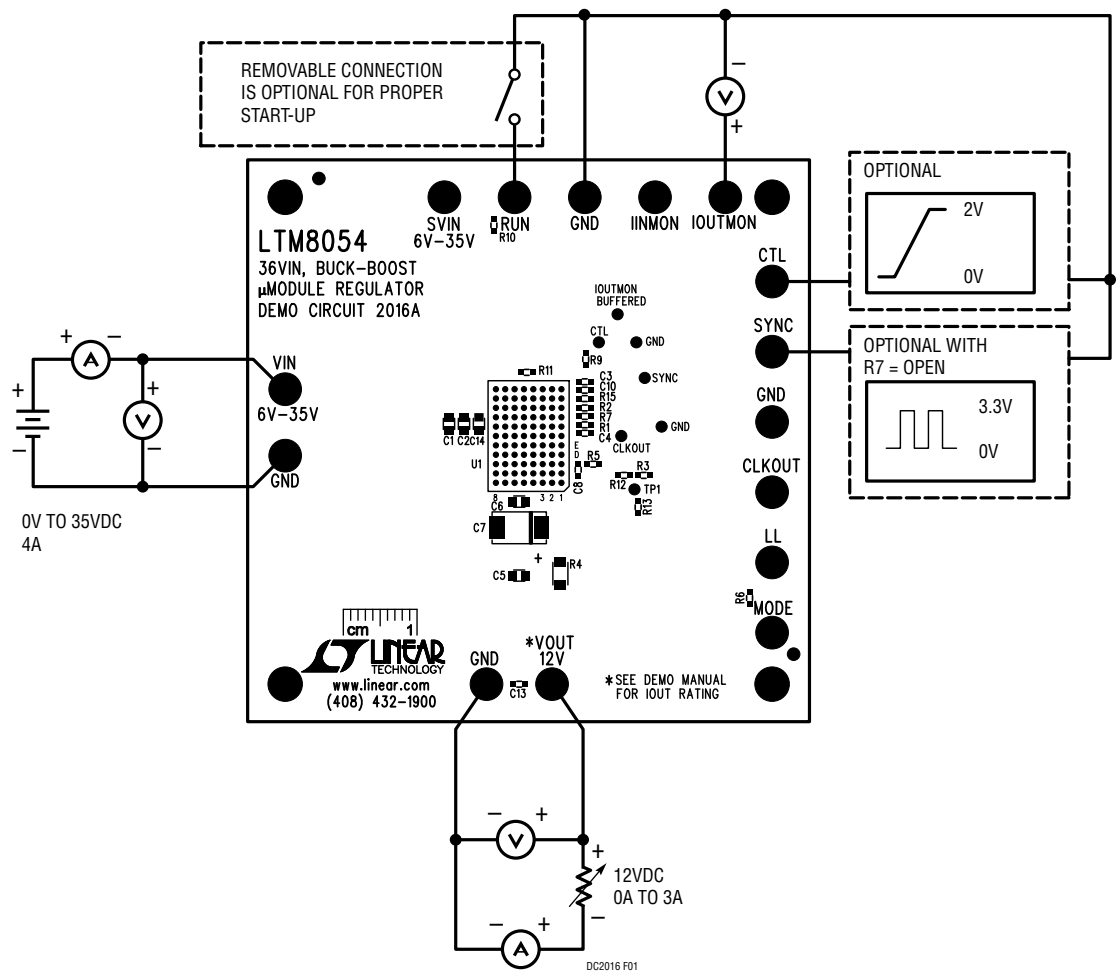
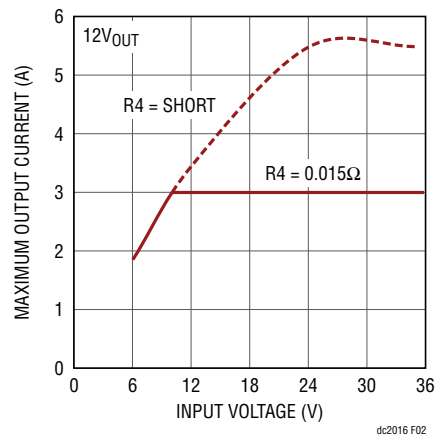

Figure 1. Proper Measurement Equipment Setup
Figure 2. Maximum Output Current vs Input Voltage for $V_{OUT} = 12V$
To use DC2016A to evaluate the performance of the LTM8054, refer to Figure 1 for the proper measurement equipment setup, Figure 2 for the maximum output current versus input voltage and then follow the procedure below:
1. Connect the RUN terminal to ground with a clip-on lead. Connect the power supply (with power off), load, and meters as shown in Figure 1.